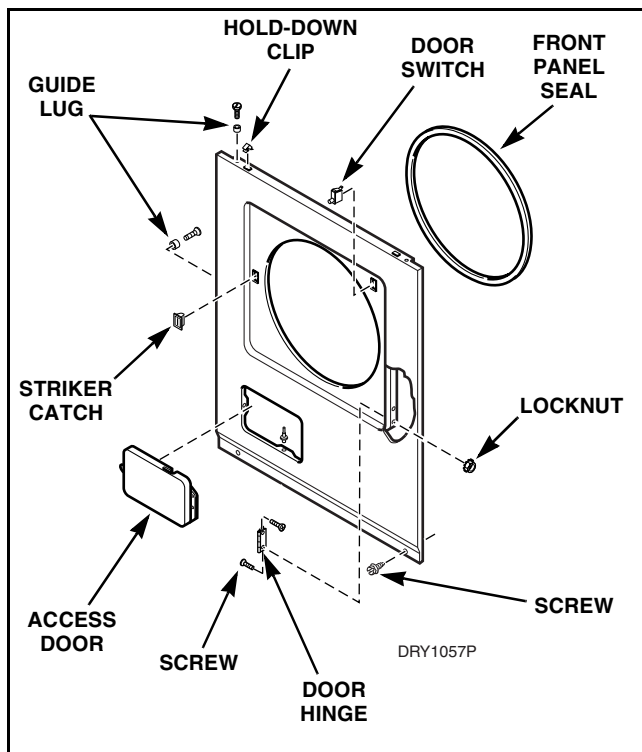

Figure 12
Refer to *Figure 12*
- Remove two screws from the bottom edge of the front panel. Refer to *Figure 12*.
- Swing the bottom of the panel away from the dryer to disengage hold-down clips and guide lugs from cabinet top. Refer to *Figure 12*.
- a. Remove two screws from the bottom edge of the front panel. Refer to *Figure 12*.
- b. Swing the bottom of the panel away from the dryer to disengage hold-down clips and guide lugs from cabinet top. Refer to *Figure 12*.
- d. Depress tabs on top and bottom of catch and push out of front panel. Refer to *Figure 12*.
- b. Remove two screws from the bottom edge of the front panel. Refer to *Figure 12*.
- c. Swing the bottom of the panel away from the dryer to disengage hold-down clips and guide lugs from cabinet top. Refer to *Figure 12*.
- e. Remove four screws and locknuts holding hinges to front panel. Refer to *Figure 12*.
- d. Compress hold-down clips and remove from slot in top flange of front panel. Refer to *Figure 12*.
- e. Remove four screws holding four guide lugs to front panel. Refer to *Figure 12*.